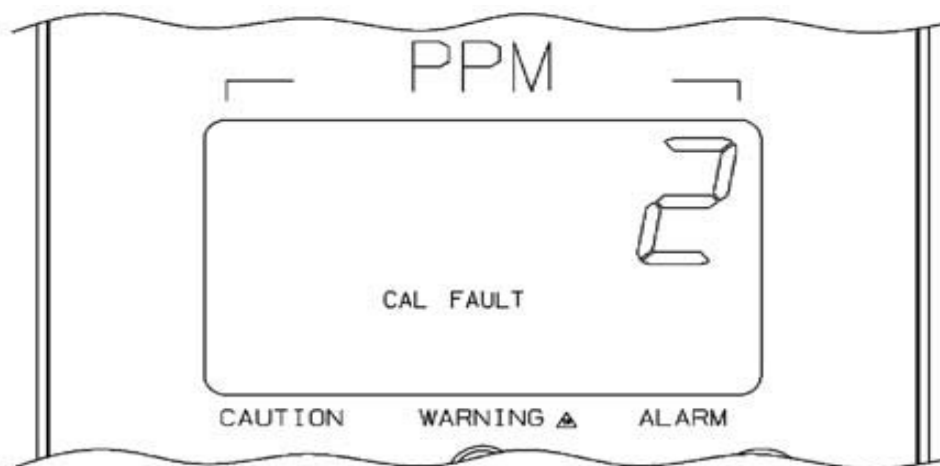

Fig. 44 CAL FAULT Reading
- (6) Re-apply power to the Toxgard II Monitor.
- (7) Perform the **INITIAL** Calibration Procedure as outlined in the Toxgard II Monitor Calibrator or Toxgard II Monitor Controller instruction manual. This procedure differs slightly from a standard calibration procedure. Use of the **INITIAL** calibration procedure upon installation of a new sensor ensures the Toxgard II Monitor will perform a successful calibration. Failure to do so may result in a **CAL FAULT** reading (Fig. 44 "CAL FAULT Reading").